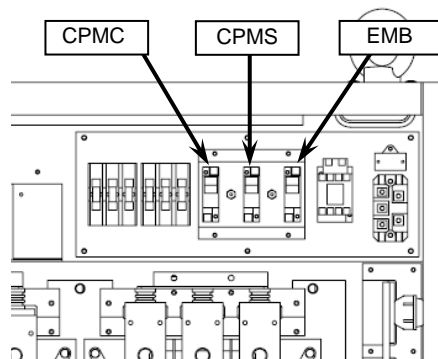

Figure 5-21 Circuit Protectors Location
*Confirm the position of the circuit protectors (CPMC, CPMS and EMB) located at the upper part of the cabinet (Figure 5-21).*